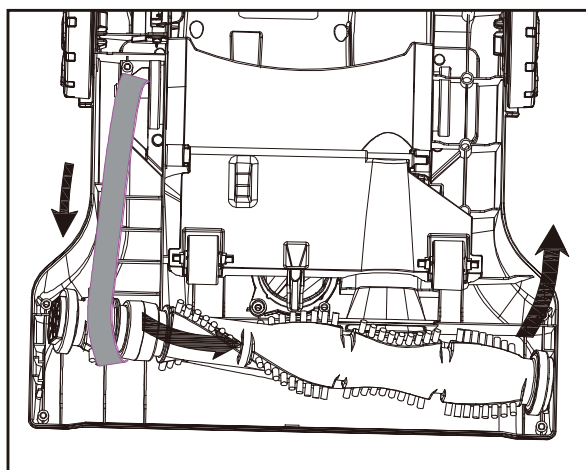

Fig 2
4. Push end of hose into top of handle and twist clockwise until it clicks (Fig.2).
2. Empty debris. Hold over wastebasket and press bottom lever to release bottom lid (Fig. 2).
- Rotate right end of brush roll bar and lift it out, then lift out left end of brush roll bar. (Fig. 2)